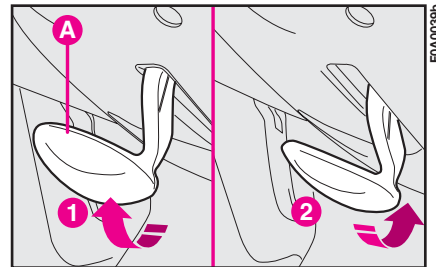

fig. 63
- 1) Move lever **A**-fig. 63 to position **1**.